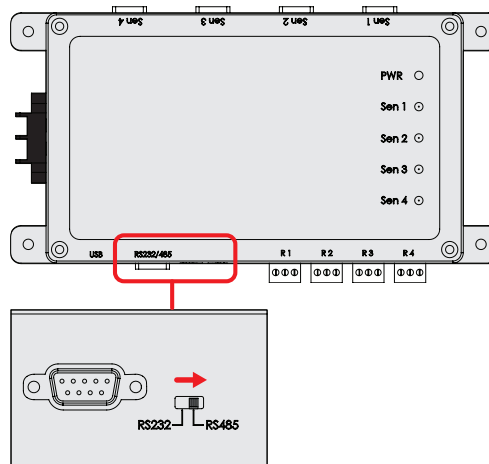

Figure 12. Changing control box output to support RS485 connection
5. Select the Serial output Switch on the control box (refer to Figure 12) to RS485.